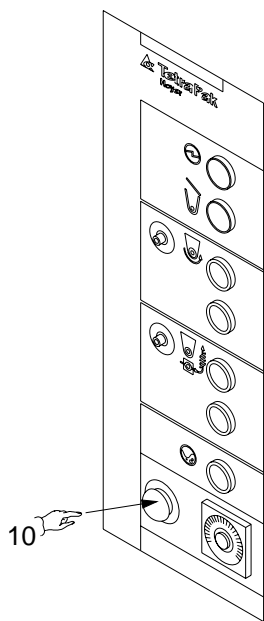

Fig. 4.5
- a. Check that the emergency stop button is released (*Pos. 10 Fig.4.5*).